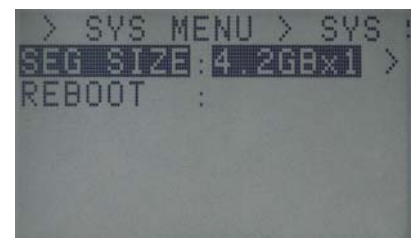

Figure 3-26 SYS SET
- 2) Select "SYS SET" from the TOP MENU using the arrows   and press SET  to display the SYS SET sub-menu (Figure 3-26) .